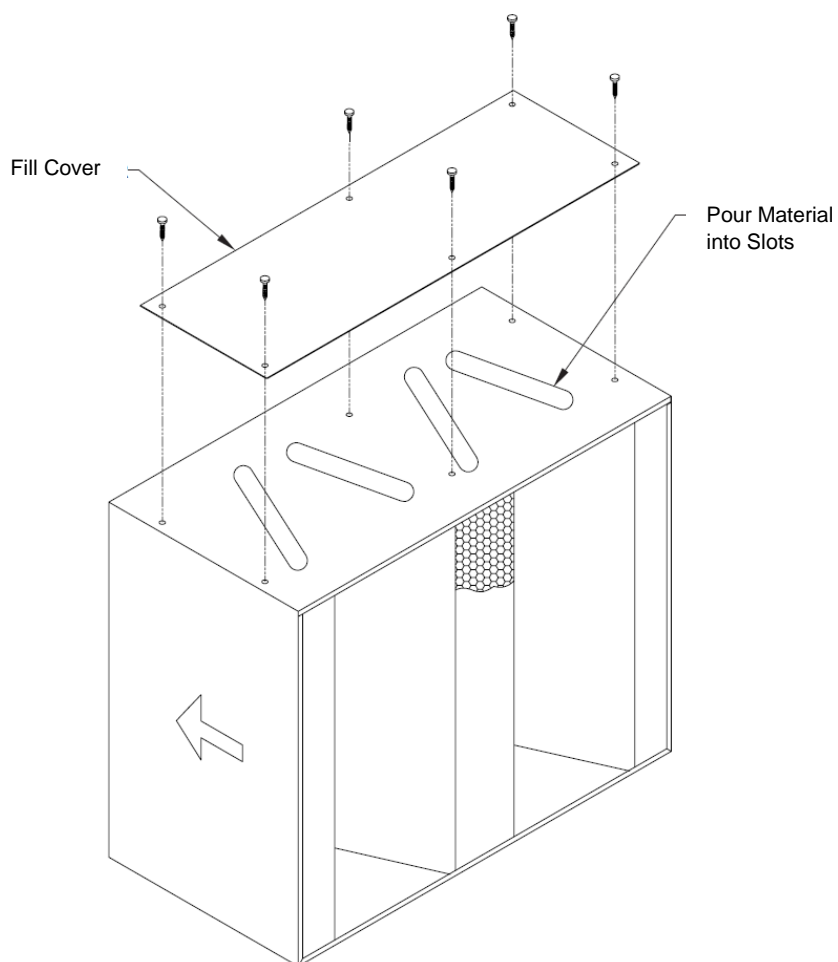

FIG. 6
2. Set module on a level surface. Remove fill cover by removing six #10-32 Phillip head screws that secure cover. Set cover aside (FIG. 6).